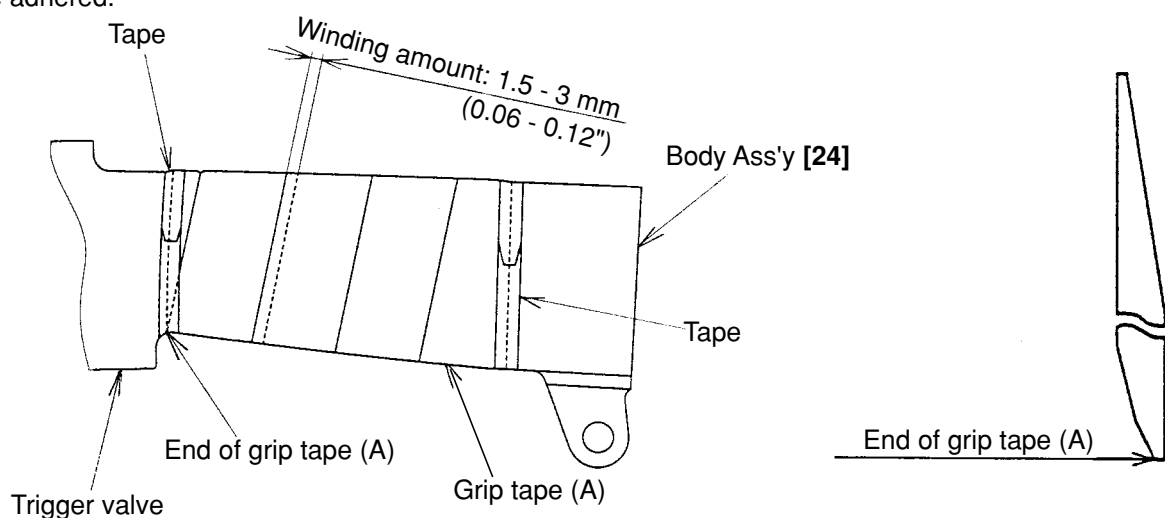

Fig. 14
- Ensure that the air vent holes in Gasket (G) [9] are properly aligned with the matching holes in Head Cap [11] and Exhaust Cover (B) [4].
(4) Grip Rubber
- The Grip Rubber [41] assembled in the Body Ass'y [24] is not supplied singly because the disassembly and reassembly are not easy. When replacement of the Grip Rubber [41] is required, replace the Body Ass'y [24] (Body Ass'y [24] comes with the Grip Rubber [41]) or install grip tape (A) according to the following procedure.
- Installation of grip tape (A) and tape
Adhere the adhesive-backed grip tape (A) and the tape to the Body Ass'y [24]. First, adhere the end of grip tape (A) under the trigger valve of the Body Ass'y [24] and wind around the Body Ass'y [24]. Wind the Tape at both ends of grip tape (A) (see Fig. 14). Be careful that grip tape (A) and tape cannot be removed once they are adhered.